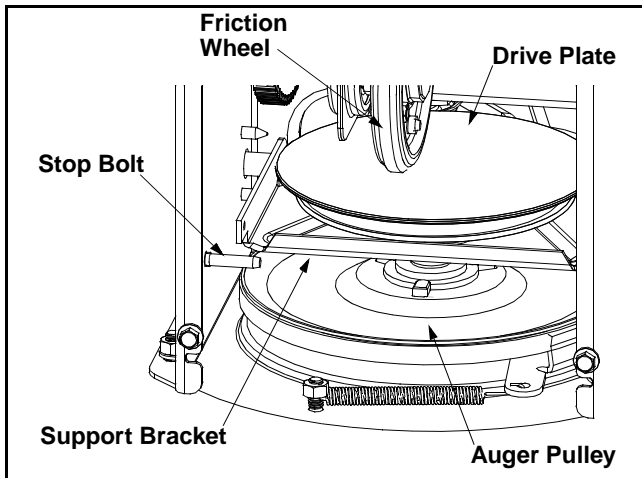

Figure 16
- Pull the idler pulley up, and lift the belt off the engine pulley and friction wheel disc. See Figure 16.